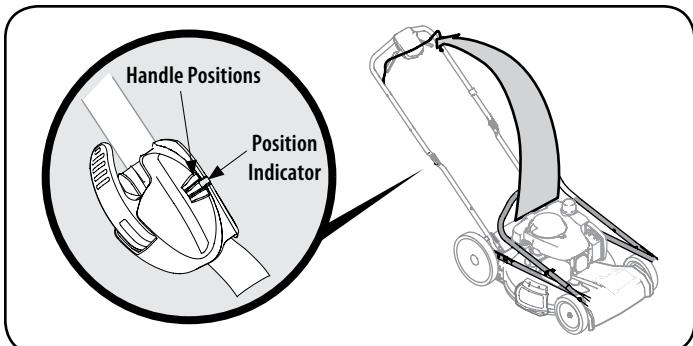

Figure 2
3. While stabilizing mower so it doesn't move, lift the upper handle up as shown in Figure 2. Do not crimp cable while lifting the handle up.
**NOTE:** When lifting the upper handle ensure the position indicator aligns with one of three handle positions. See Figure 2 inset.